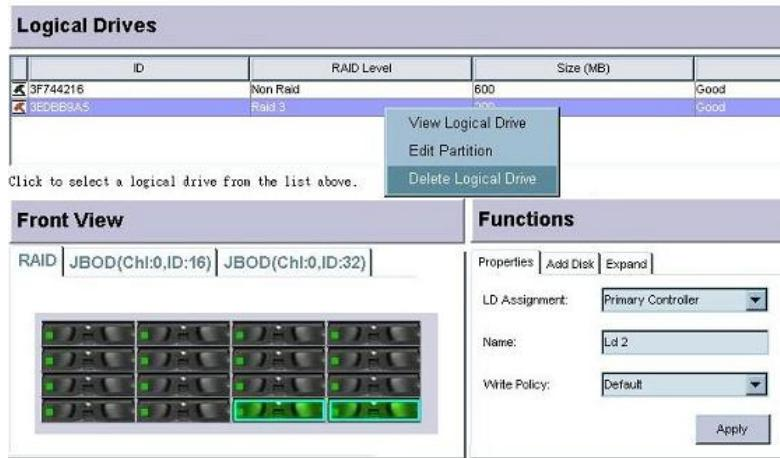

Figure 9-15: Displaying the Logical Drive Command Menu
Step 1. Select the logical drive you wish to remove with a single mouse-click. **Right-click** on the adjacent screen area. A command menu will prompt as shown in *Figure 9-15*.